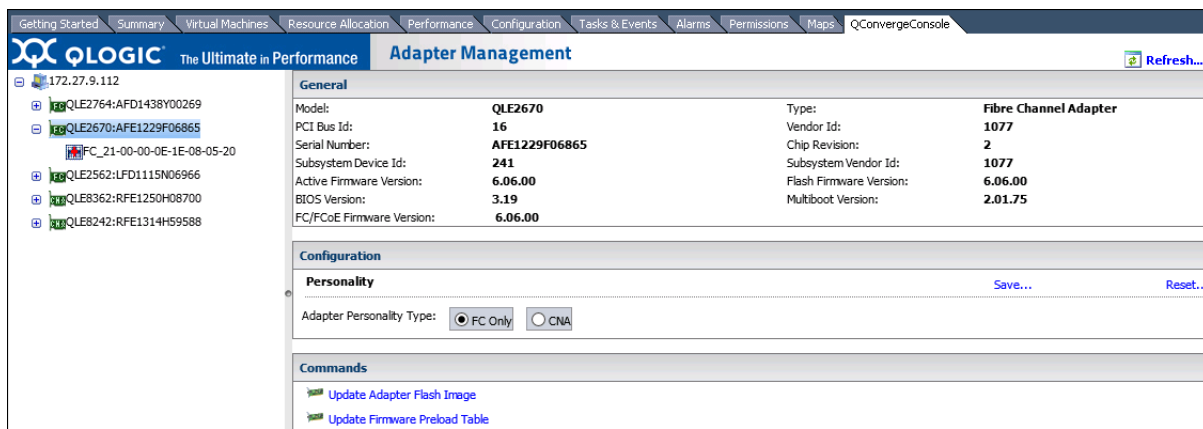

Figure 3-18. Changing Personality Type Using QConvergeConsole Plug-in for VMware vCenter Server
2. In the content pane under **Configuration**, select an **Adapter Personality Type** as shown in Figure 3-18.